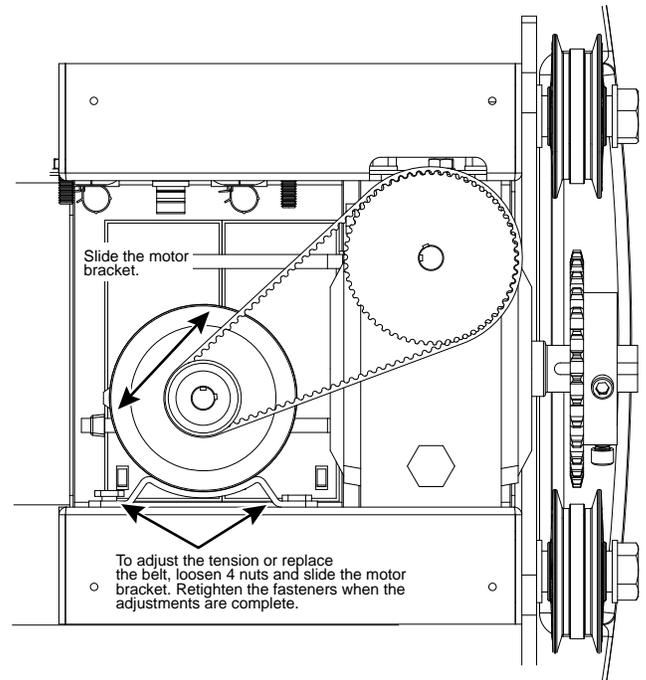
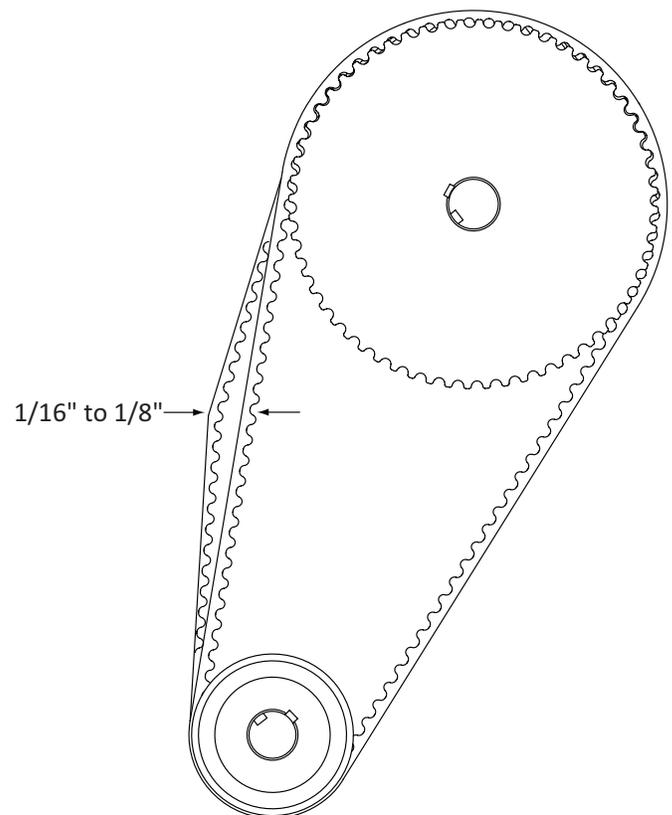

Figure 81. Drive Belt Tension and Alignment
Figure 82. Drive Belt Tension
4. With your finger, apply light outward pressure to the drive belt. If it is properly tensioned, it should only move about 1/16 to 1/8-inch (1.6 to 3.2cm). See Figure 81 and Figure 82.